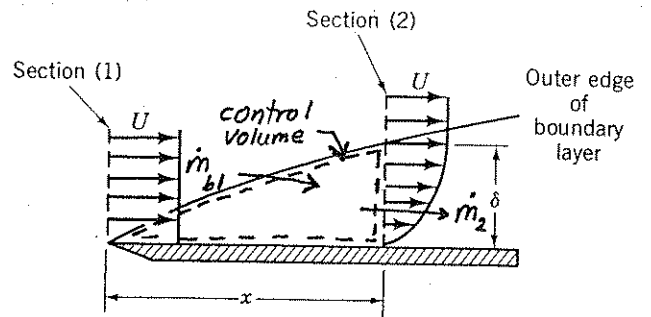

FIGURE P5.25
**5.25** Flow of a viscous fluid over a flat plate surface results in the development of a region of reduced velocity adjacent to the wetted surface as depicted in Fig. P5.25. This region of reduced flow is called a boundary layer. At the leading edge of the plate, the velocity profile may be considered uniformly distributed with a value  $U$ . All along the outer edge of the boundary layer, the fluid velocity component parallel to the plate surface is also  $U$ . If the  $x$  direction velocity profile at section (2) is